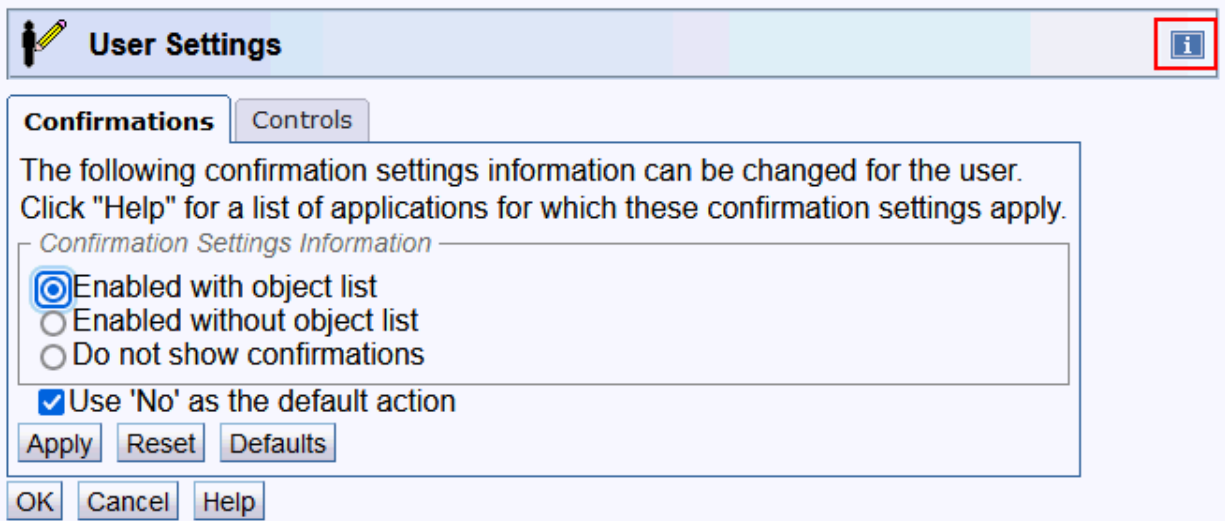

Figure 3. Context sensitive help not enabled
1. Click on the blue **i** that is displayed in the upper right corner of the task window (see Figure 3 on page 12). Every time a new task window opens you need to click **i** to enable context sensitive help.